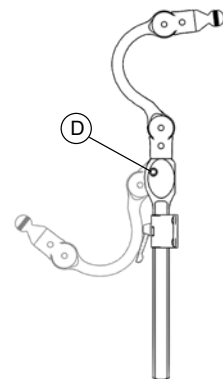

Fig. 4
2. Horizontal / Angle – Loosen pivot bolts (Fig. 1, A) for depth (Fig.4) and angle (Fig.3) adjustments. It is not necessary to fully tighten all screws until final position is achieved.